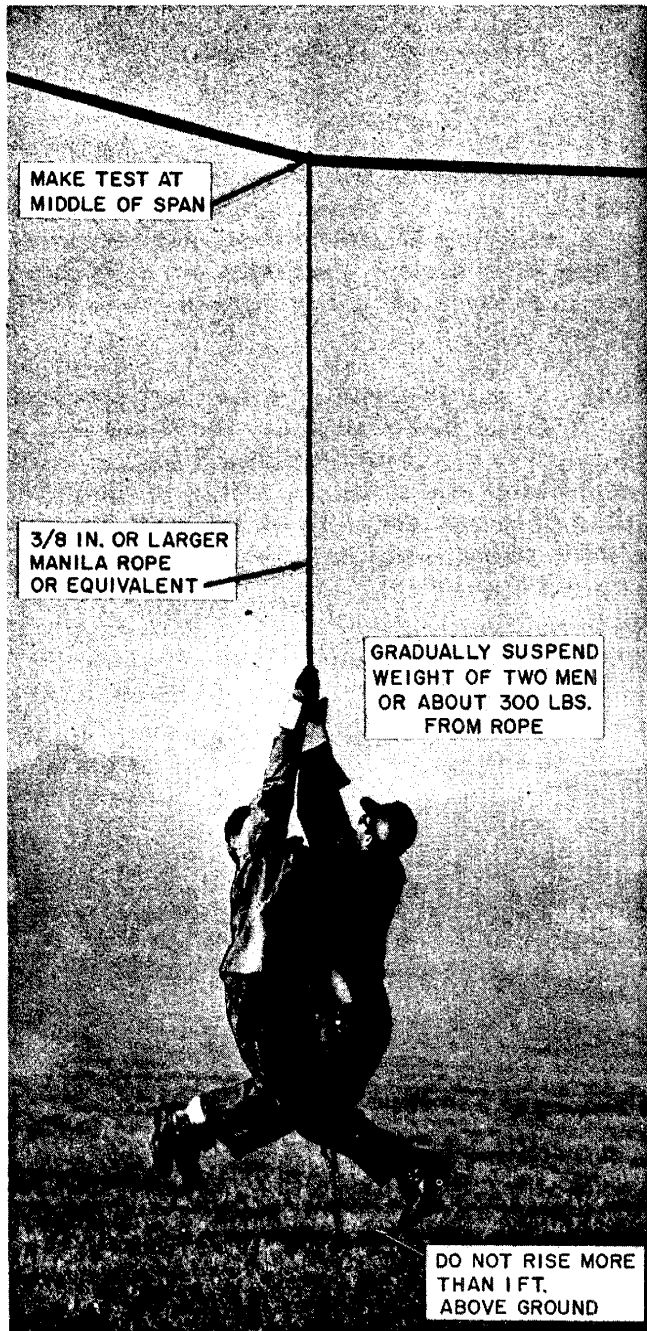

Fig. 2—Testing Strand Prior to Placing Aerial Platform or Cable Car
(3) Two workmen should grasp the two ends of the handline and gradually apply their full weight to the strand and gradually apply their full weight to the strand by lifting themselves slowly off the ground (Fig. 2).